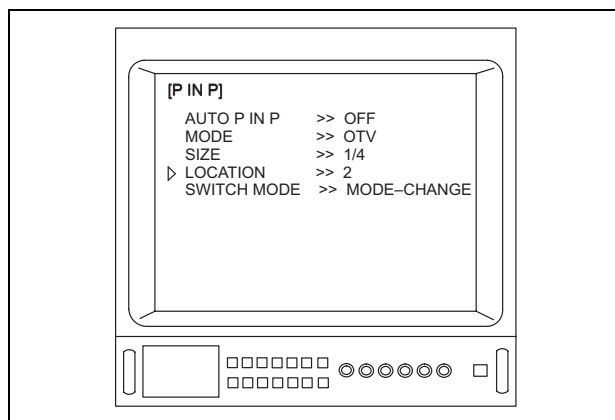

Figure 5.125
6. Depress the menu switches “” or “”, or the “” key on the keyboard to move the arrow “” to “LOCATION” (see Figure 5.125).
Depending upon the OTV-S7V's settings, the menus shown in Figures 5.125 and/or 5.126 may appear different from those displayed on the video monitor.